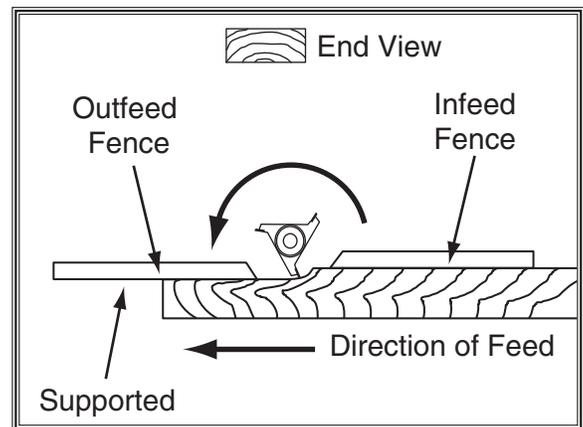

Figure 33. Fence setup for jointing-type operation.
7. Once cutter has come to complete stop, adjust outfeed fence so that it just touches newly cut edge, as shown in Figure 33, and re-tighten lock handle to secure fence into position.